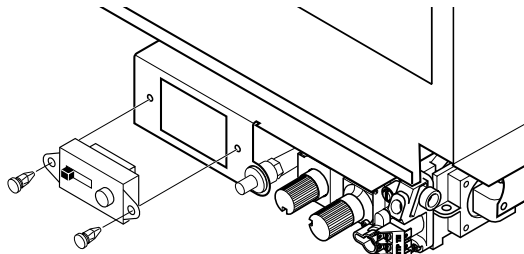

Figure 52 - Installing Remote Receiver
- Place receiver into valve bracket and align holes (see Figure 52).